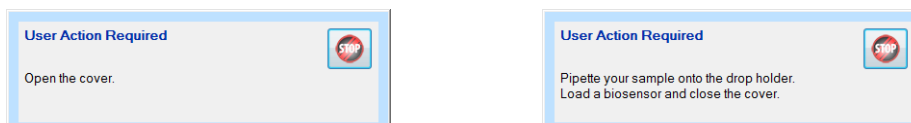

Figure 4-32: User Action Required—Experiment Operation
5. Follow the onscreen instructions (Figure 4-32).